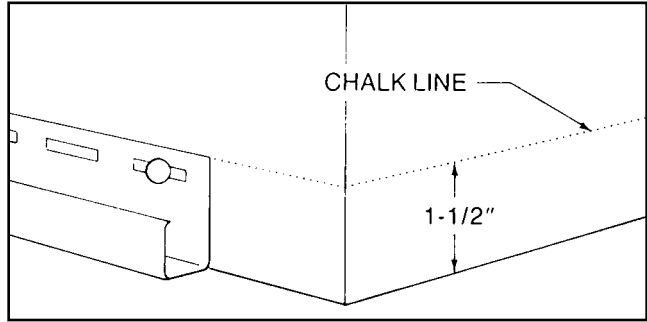

Fig 7.1
**2. CHALK LINE** It is best to establish a level chalk line in relation to the eaves or the tops and bottoms of doors and windows. First, determine the lowest corner of the building where a level line can be drawn (uninterrupted) around the perimeter. Measure up 1 - 1/2" from that point and snap a level chalk line around the house (Fig. 7.1)
- A. Align the top of the nailing flange of the J-Channel along the chalk line (Fig. 7.1) and nail in the center of the nailing slots every 6" to 12". Leave a gap of at least 1/4" between the end of the J-Channel and the corner post (Fig. 7/4) for expansion. A larger gap may be needed to allow the siding panel to properly lock into the starter strip. Splice the J-Channel as needed (see step 7, page 11) to complete installation.